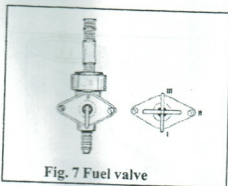

Fig. 7 Fuel valve
- Open the fuel cock into Position I (open), see Fig. 7.
The fuel valve lever has three positions (Fig. 7).